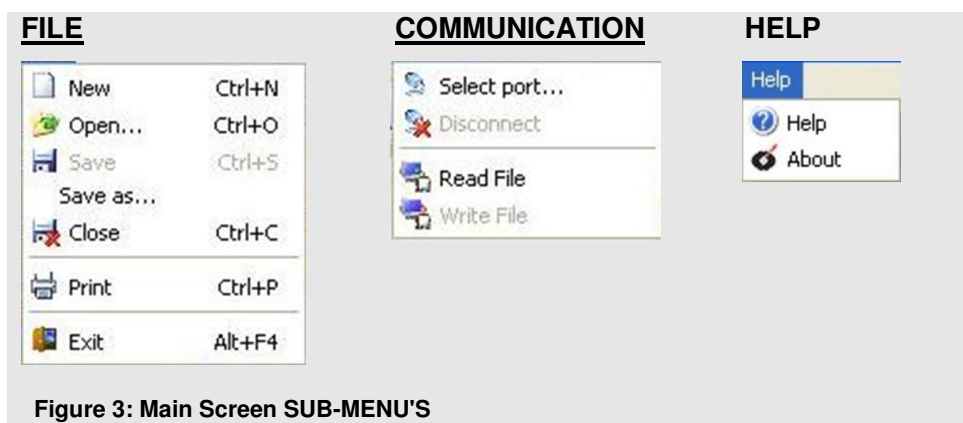

Figure 3: Main Screen SUB-MENU'S
- 6.2. The MAIN SCREEN has 3 MENU's – FILE, COMMUNICATION and HELP. Each of these MENU's has SUB-MENU's as shown in Figure 3 below.